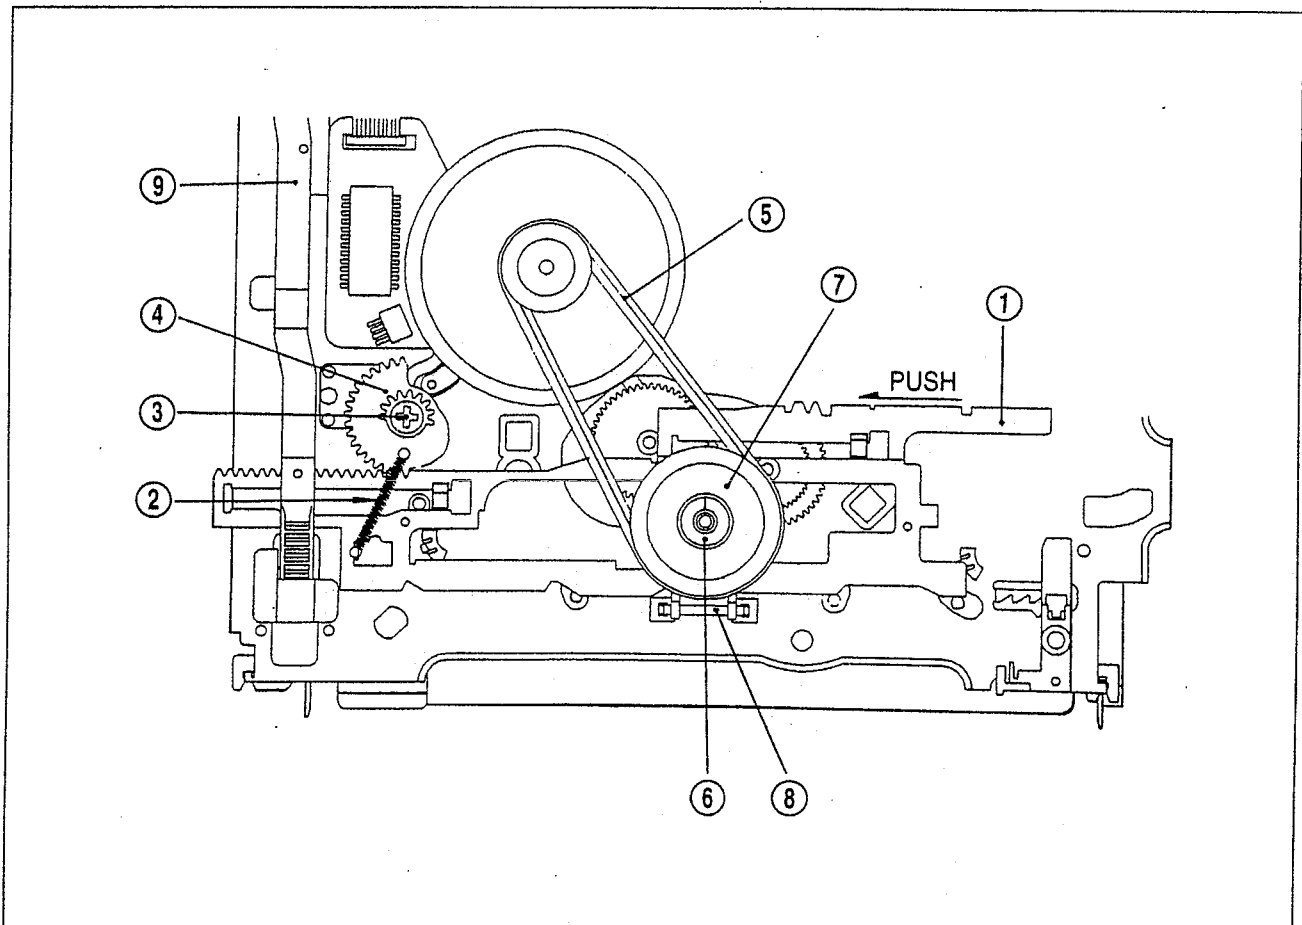

Fig. 3-6
7. REPLACEMENT OF THE MAIN PLATE (See Fig. 3-6)